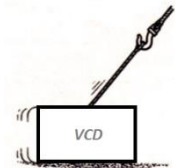

Figure 4, PROHIBITED LIFTING
- It is prohibited to lift from blades, linkage or actuators, drag the VAV and push the VAV, see *Figure 4*, PROHIBITED LIFTING